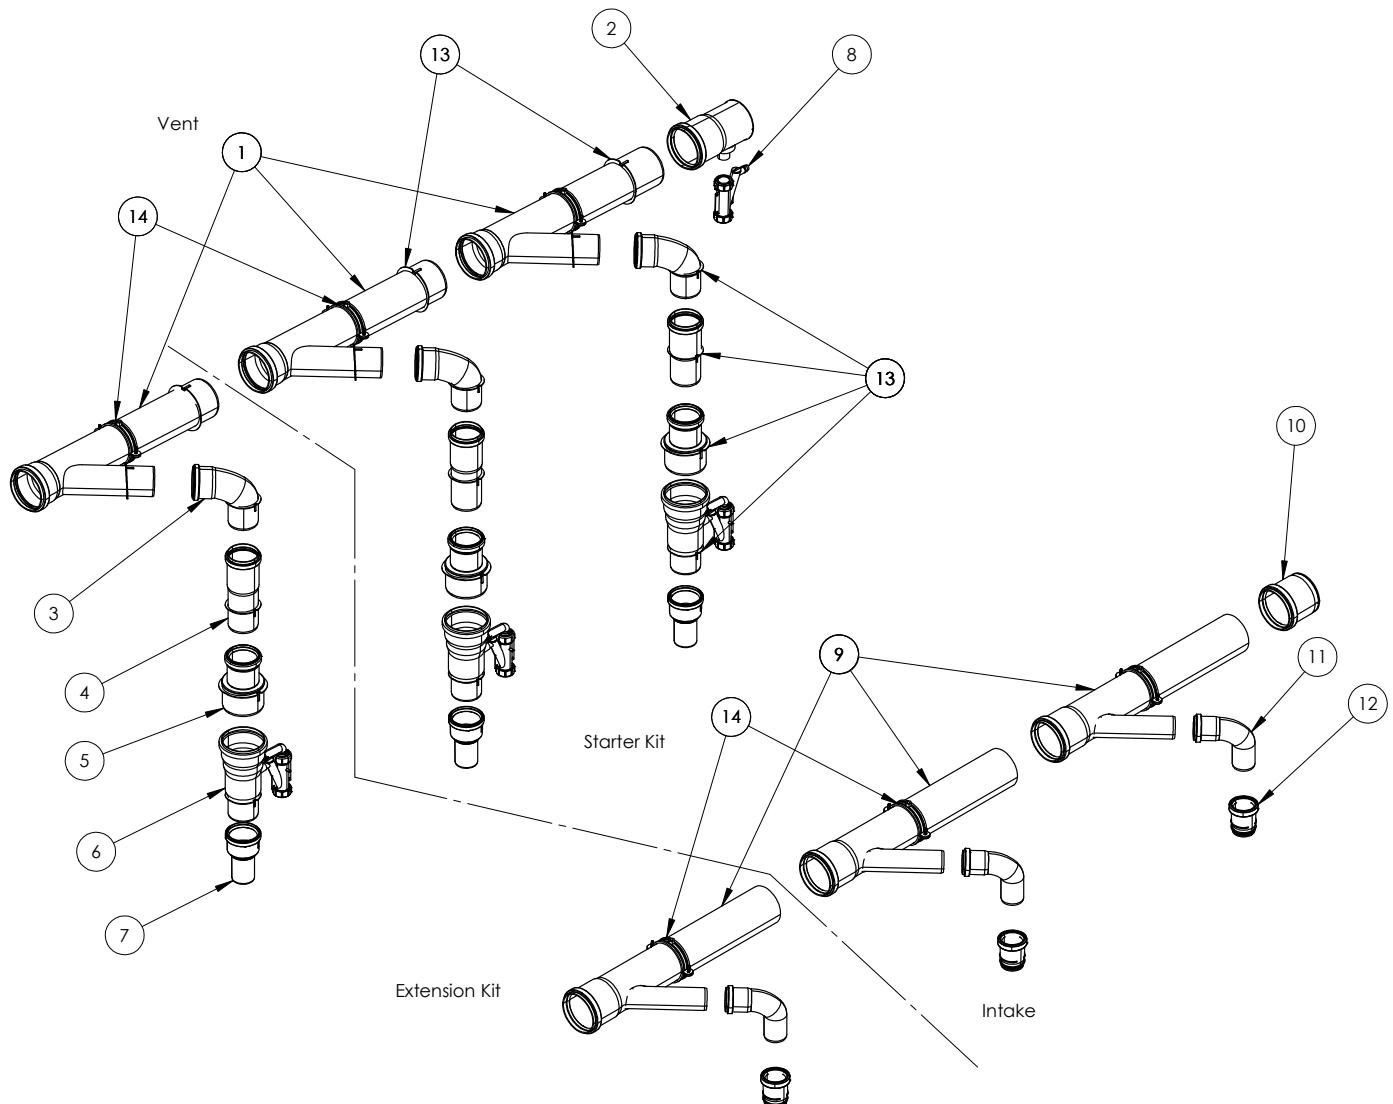

Figure 1 : Common Vent Kit Components
5. Assemble venting manifold as shown in Figures 1 and 2. When using a 6 in. (152 mm) manifold, 4 in. to 3 in. reducer (item 5) is not used.